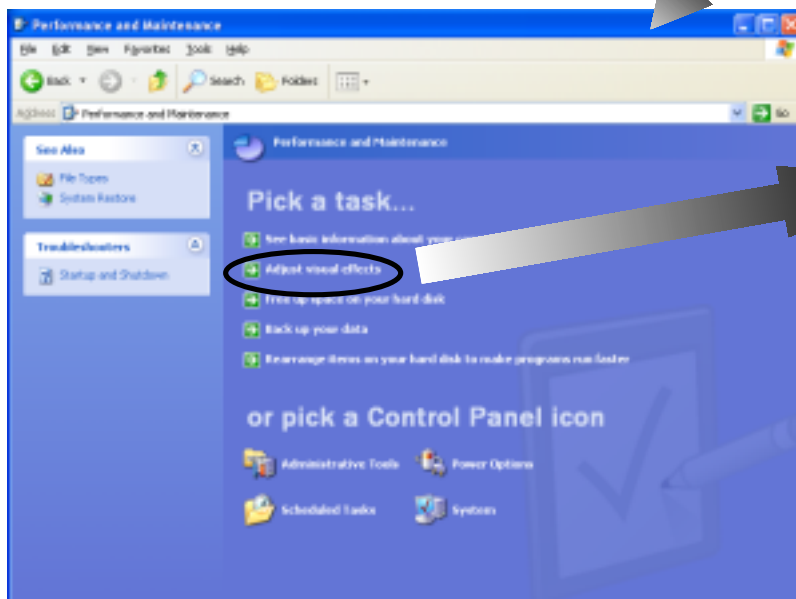

Figure 3
3. Click on **Adjust Visual Effects** as shown in Figure 3.